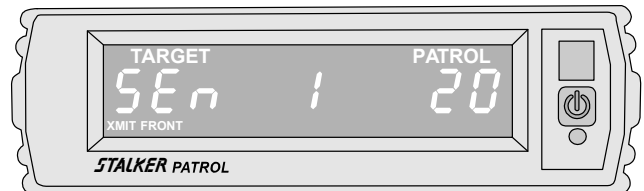

Fig 14
The range (or sensitivity) of **STALKER PATROL** is adjusted by pressing the **SEn** key. This key cycles through the four (4) sensitivity levels; **SEn 1**, **SEn 2**, **SEn 3**, and **SEn 4** (Fig 14 - Fig 17, respectively). In each case, the center display refers to the current sensitivity setting. The shortest range is **SEn 1** (Fig 14), and the longest range is **SEn 4** (Fig 17). **The range (or sensitivity) must be set for same lane moving mode and opposite lane moving/stationary mode separately.** While in each mode, (same lane and opposite lane), indicated by the presence or absence of the **SAME** icon, set each sensitivity as described above.